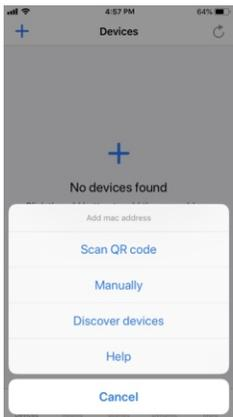
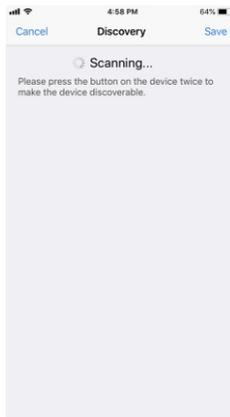

Figure 4
Figure 5
4. Run H2AAPP, tap add button "+" on the APP to add device, then choose "Discover devices" to discover device, then **short press the "K2" button on the curtain motor controller twice (or reset power of the controller twice continuously)** to set the device into pairing to APP mode. (As shown in **Figure 3 & Figure 4 & Figure 5**)